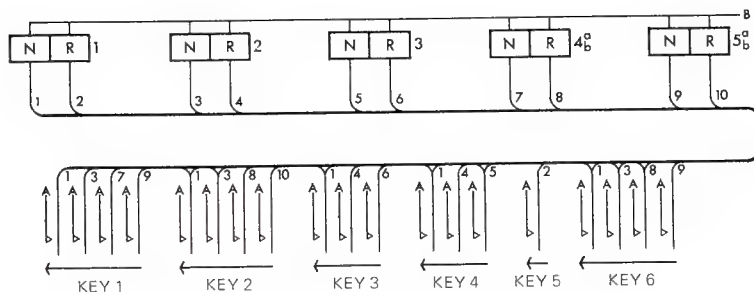
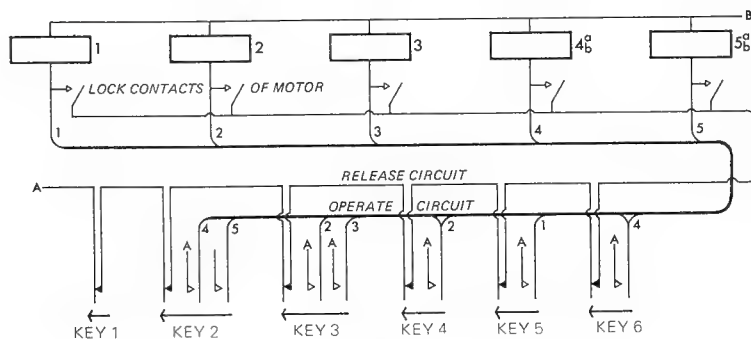

Fig. 8
Fig. 9
Fig. 8 is the wiring diagram when two-coil motors are used, while Fig. 9 is the diagram for single-coil motors. As setting the road from X to the engine road is the same as setting the road from the platform to the goods shed, key 6 is used for both functions. When proceeding to X from any of the roads, the same key will set the route as from X to that point.